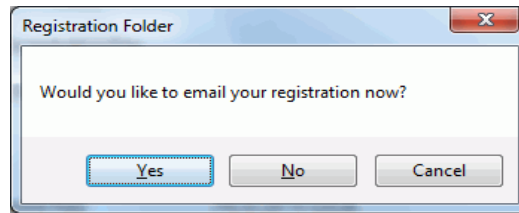

Figure 8 Email Registration
3. Enter all required information, as marked by *, click  then Figure 6 appears click  and Figure 8 appears, if email access is detected.